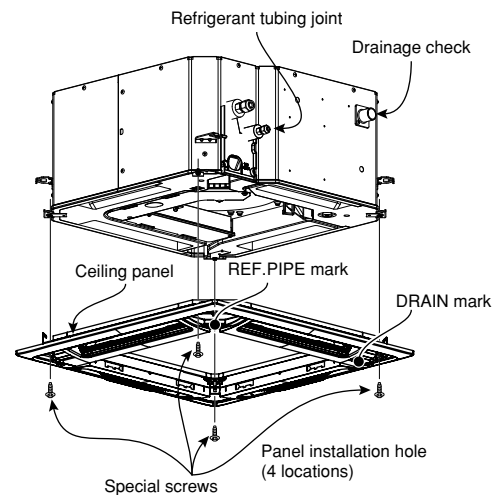
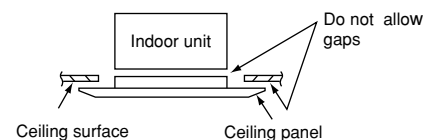

Fig. 6-18
Fig. 6-19
- (2) Align the panel installation holes and the unit screw holes. (Fig. 6-18)
- (3) Tighten the supplied special screws at the 4 panel installation locations so that the panel is attached tightly to the unit.
- (4) Check that the panel is attached tightly to the ceiling. (Fig. 6-19)